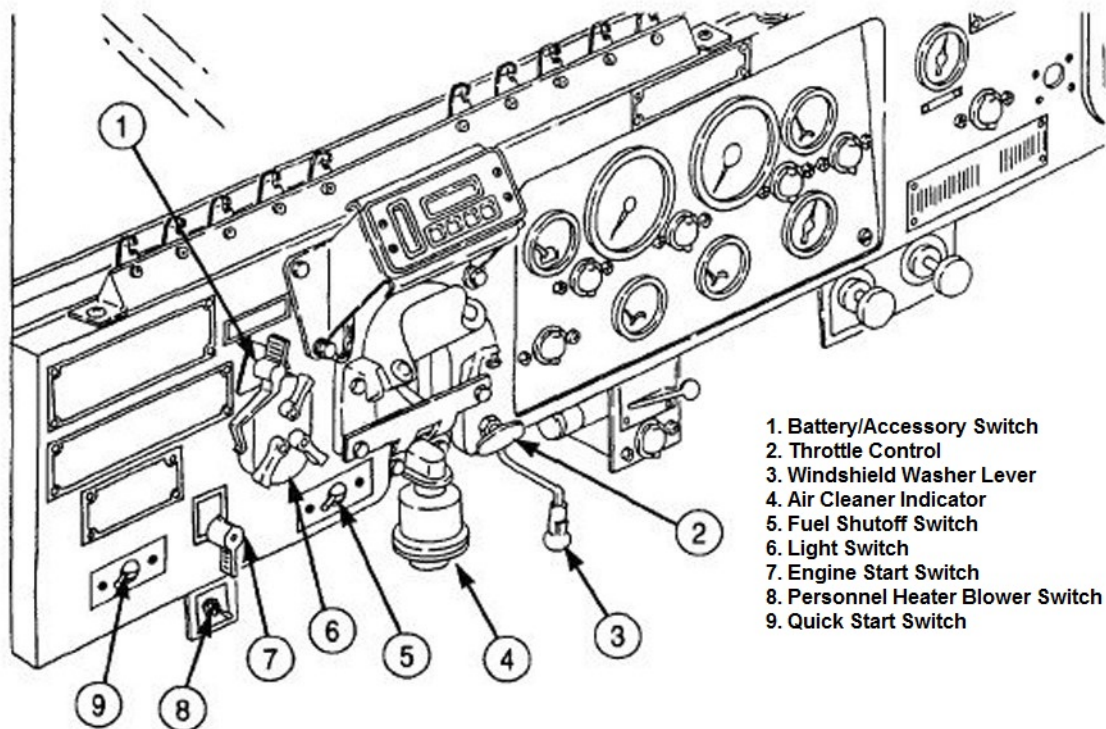
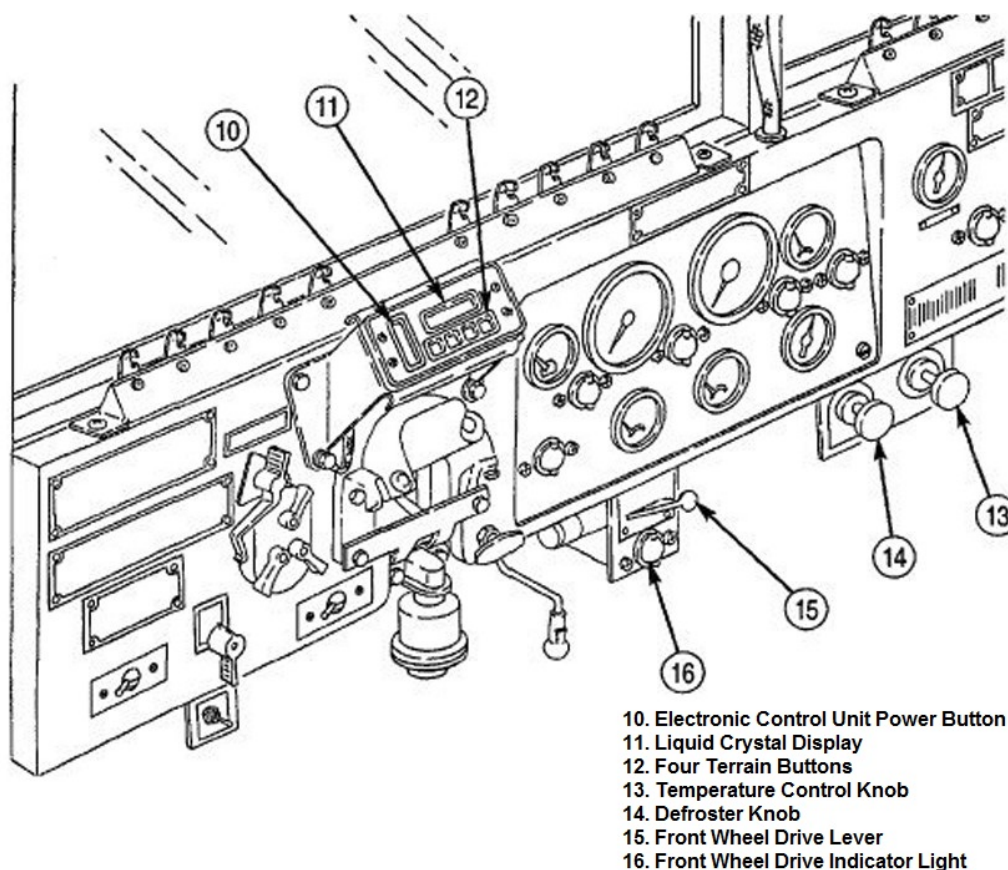

Figure 3-25. M35 cab interior, first view.
Figure 3-26. M35 cab interior, second view.
Before you can maintain a vehicle, you need to know what controls what. You would think since we are all familiar with our personal vehicles, it would be easy to relate personal vehicle controls to government commercial-type vehicle controls. However, this is not true for M-series vehicles. Some of the most common problems in the field are that most technicians have never seen an M-series-type vehicle and, therefore, do not understand the military bells and whistles. The following lessons list the typical chassis controls and indicators that are on the medium-duty M-series vehicles. Reference figures 3-25 through 3-28 for component location.
As we discuss the first list of the M35 interior cab components, reference figure 3-25 for items 1 through 9 and figure 3-26 for items 10 through 16. The table below lists and describes the function of each component.